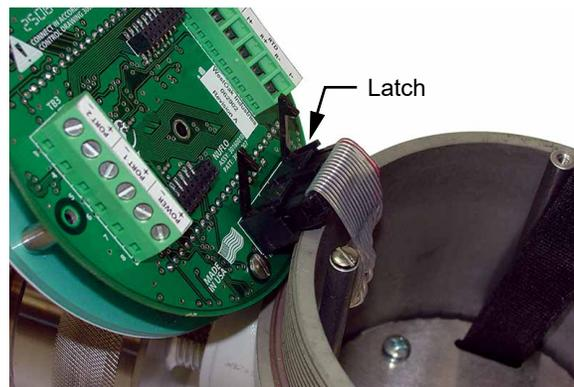

Figure 5.2 - Latch securing the ribbon cable
- a. Lift the latch from the black clip securing the ribbon cable (Figure 5.2).
- a. Lift the latch from the black clip securing the ribbon cable (Figure 5.2, page 81).